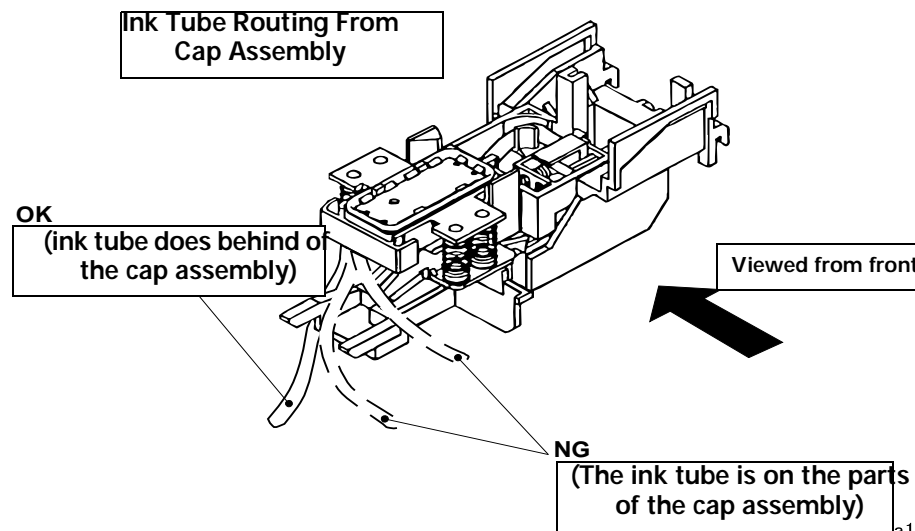

Figure 4-13. Ink Tube Routing
- When assembling, be careful not to crush nor leave any stress on the ink tube connecting the Pump Assembly and the Cap Assembly. (Refer to the Figure 4-13.) After installing the Pump Assembly, rotate the Combination Gear, 6, 34.4 and check if the Head Cleaner moves back and forth. (Perform this check while holding the Cap Assembly to the right of the frame.)